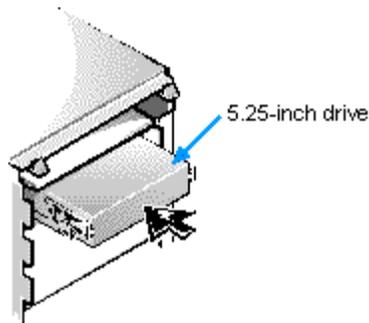

Figure 10-8. Inserting the New Drive Into the Drive Bay
- Slide the new drive into the drive bay until it snaps securely into place (see Figure 10-8).